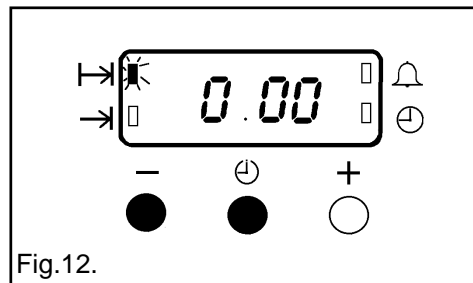

Fig.12.
- i) To cancel an automatic programme press the Selector Control button until the 'Cook Time' indicator neon (  ) flashes. Press the decrease control ( - ) until the display reads 0.00 as Fig. 12.